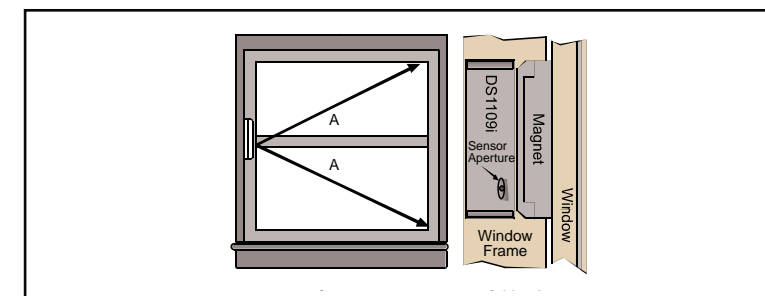

Figure 3.4: Single Window Coverage Using the Magnetic Contact
- Make sure the detector is no farther than 10 ft (3 m) from the farthest corner of the glass (line A in Figure 3.4).